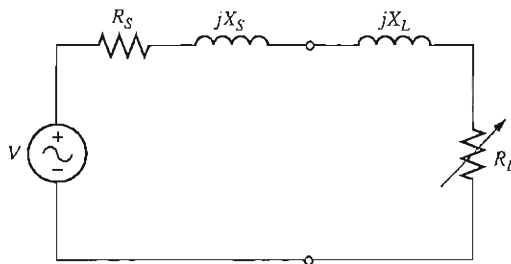

FIGURE P6-1
- 6-14. Figure P6-1 shows a simple circuit consisting of a voltage source, two resistors, and two reactances in parallel with each other. If the resistor R_L is allowed to vary, but all the other components are constant, at what value of R_L will the maximum possible power be supplied to it? *Prove* your answer. (*Hint:* Derive an expression for load power in terms of V , R_S , X_S , R_L , and X_L and take the partial derivative of that expression with respect to R_L .) Use this result to derive the expression for the pullout torque [Equation (6-54)].